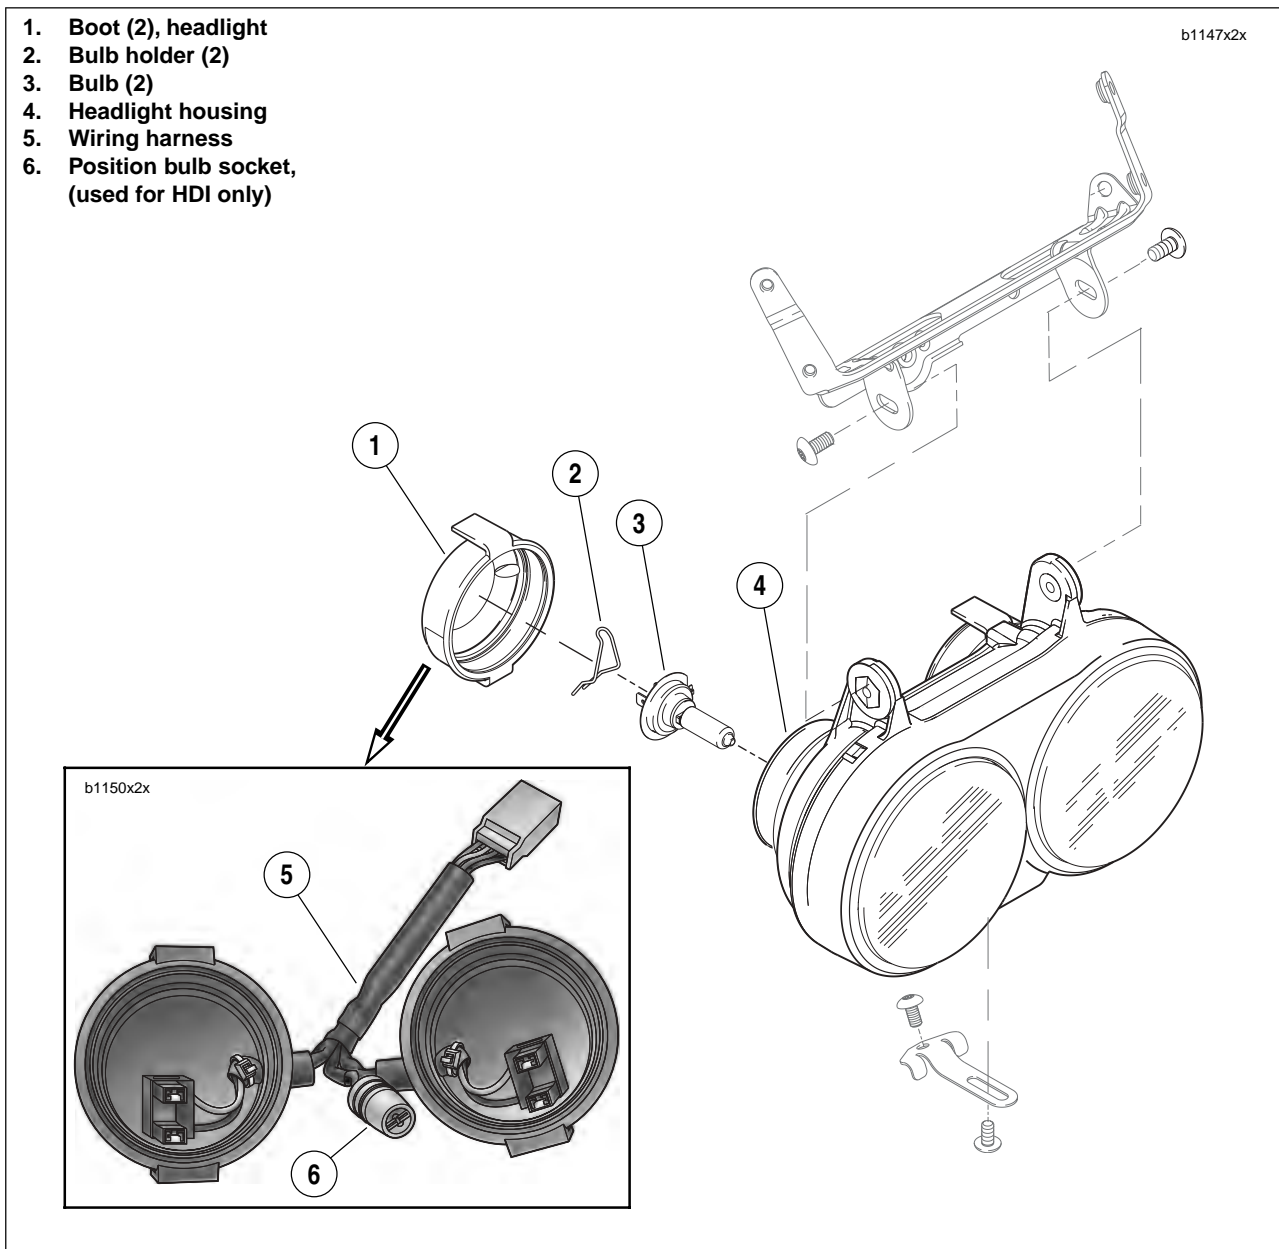

Figure 2-93. Headlight Assembly
1. See Figure 2-93. Remove rubber boots (1) from rear of headlight housing.
2. Disconnect wiring harness (5) from headlight bulbs (3) and remove along with position bulb socket (6).
3. Remove bulb holders (2).
4. Remove headlight bulbs (3) from back of headlight housing (4).
1. See Figure 2-93. Align and install headlight bulbs (3) into back of headlight housing (4).